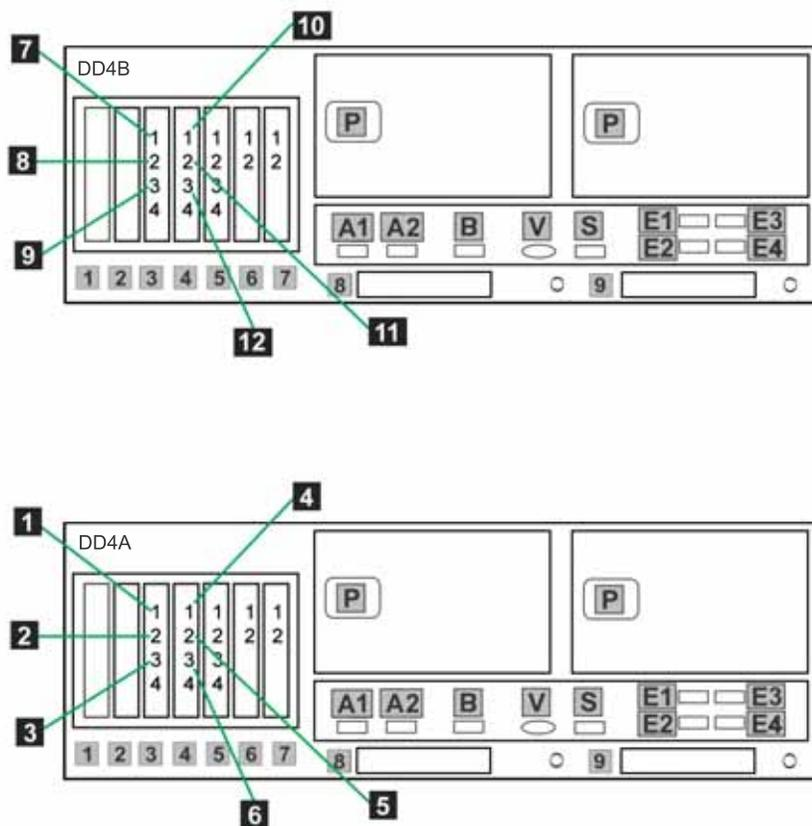

Figure 25. Clustered customer network Ethernet connections for OpenStorage configuration
2. Label and connect Ethernet cables (Cat 5e or higher) according to Figure 25 on page 60 and Table 22 on page 60 for the customers host network.